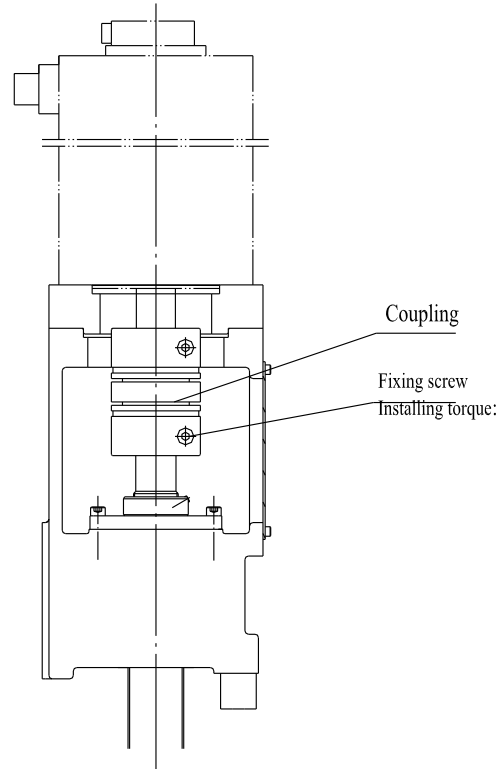

Fig. 3.7 (a) Installation of Z axis motor
- 4) Position the servo motor above the motor seat as Fig. 3.7 (a) ; get the motor shaft into the bore of coupling; tighten the fixing screw.